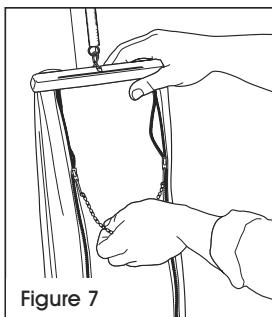

Figure 7
1. Grasp top of bag and release both zippers by pulling down on dual zipper connector. (See Figure 7)